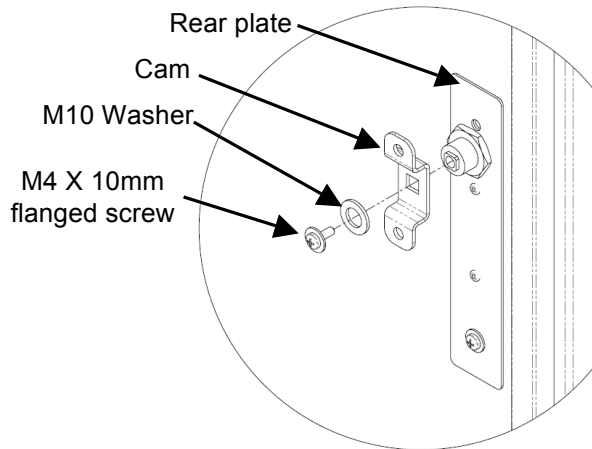

Fig. 3
5. Fasten the cam into the Lock barrel with M4X10mm flanged screws & M10 Washer (Fig. 3).